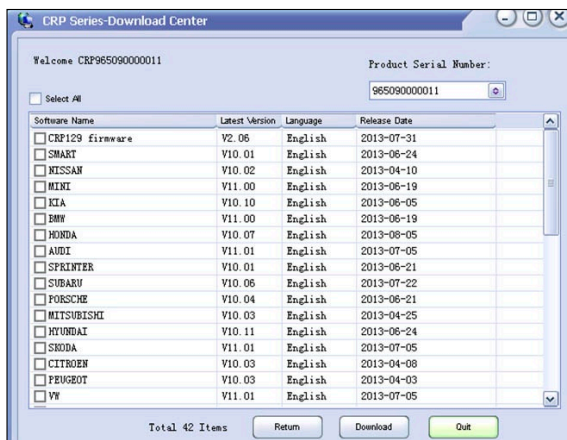

Figure 7
10. Reopen the CRP update Suite and select the updates you would like to perform or click "Select All" and click "Download". (Figure 7)